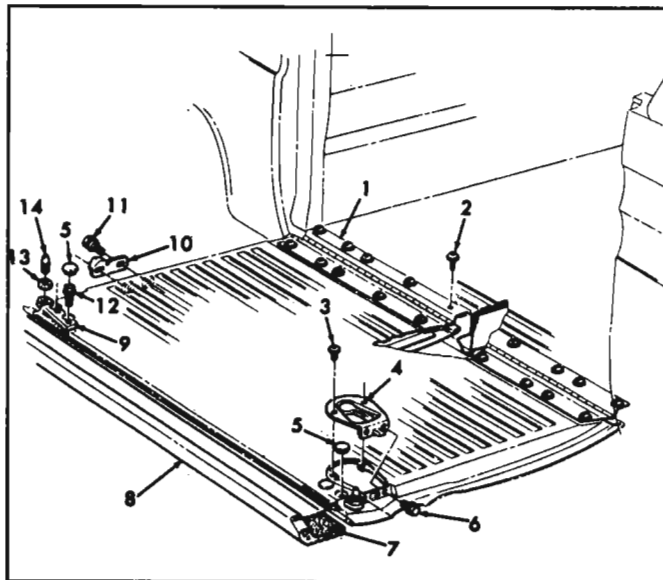
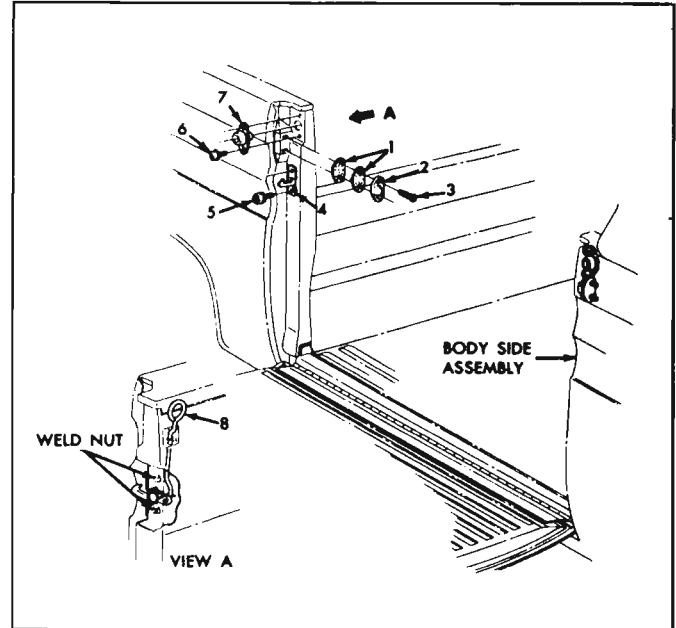

Fig. 10-106a—Side Cargo Ramp Door Hinge and Lock Assembly
Fig. 10-107a—Side Cargo Ramp Door Attachment
3. Loosen pin guide retaining lock nuts (13, fig. 10-106a) and turn guide pin so that it enters guide firmly to prevent door chocking (7, fig. 10-107a). Tighten lock nuts after adjustment.
2. Remove four retaining screws from handle and lock assembly (fig. 10-106a).